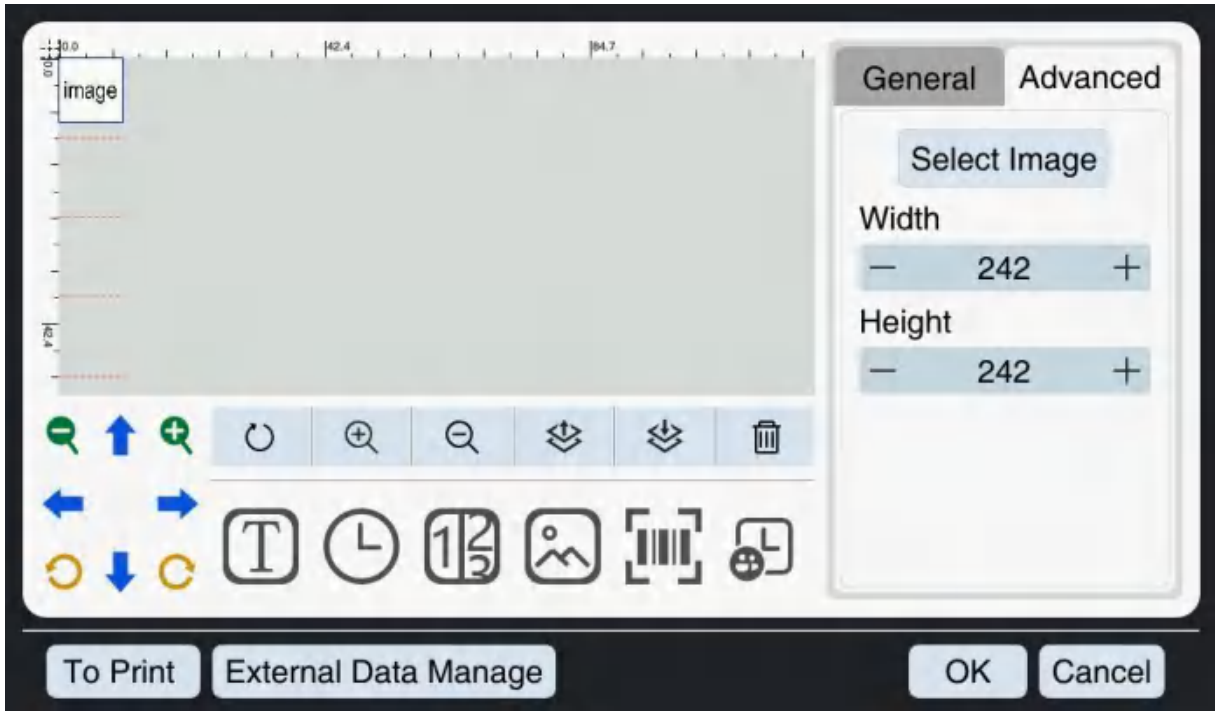

Figure 5-9 Image Editing Interface
1. If you need to print images, please click the  button in the "Information Button Area", then a default "image" picture entry will appear in the "Information Editing Area". As shown in Figure 5-9.